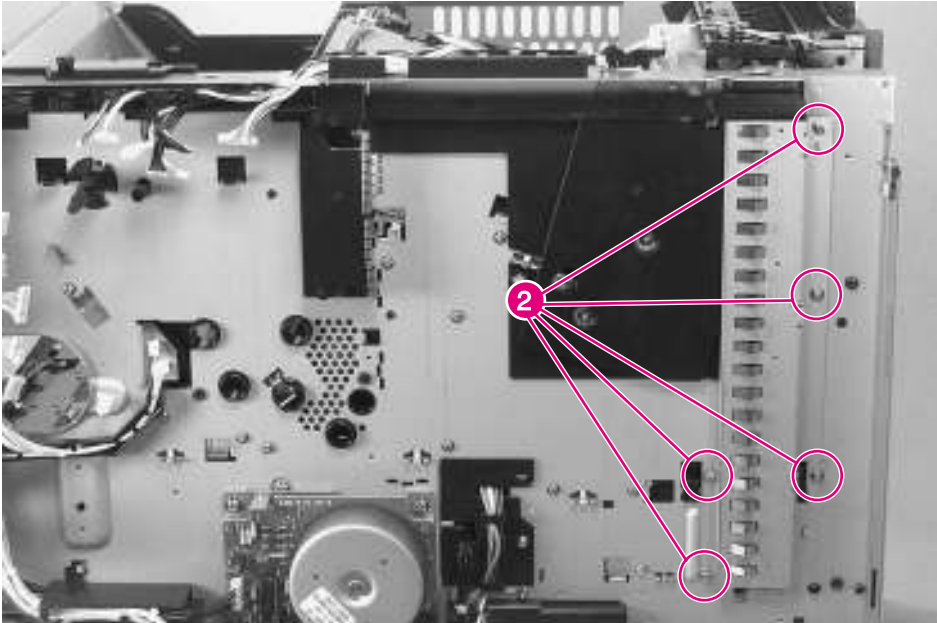

Figure 6-45 Output Paper Sensor PCA (2 of 4)
- 3** Remove 5 screws (figure 6-45, callout 2), and remove the Formatter PCA grounding strip.